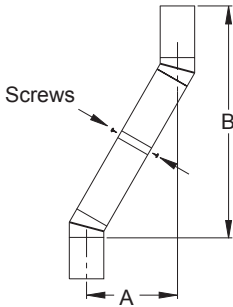

Figure 9 - Elbow Offset
Continue to assemble chimney sections as outlined above, making sure that both the inner and outer pipe sections are locked together. When installing double wall snap-lock chimney together, it is important to assure the joint between the chimney sections is locked. Check by pulling chimney upward after locking. The chimney will not come apart if properly locked. It is not necessary to add screws to keep the chimney together (exception, see Figure 9, page 10).
4. All pipe connections between the offset and return must be secured with two screws on the outer pipe only (see Figure 9, page 10). Do not penetrate the inner stainless.